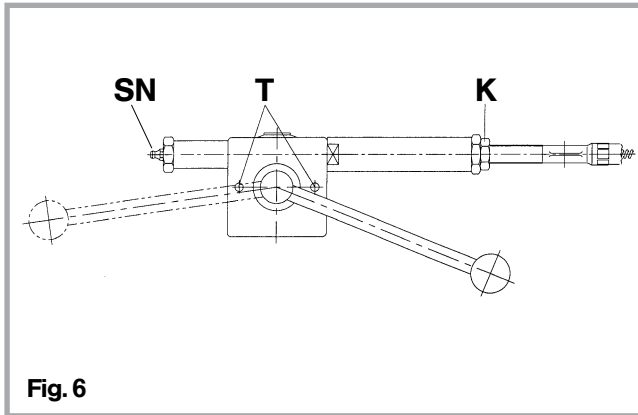

Fig. 6
- the fastening screw (T) should be bolted to the gearbox casing
- the lock nut is to be released (K)
Recommendation: Bowden cable should be at least half a year post-greased (SN, Fig. 6) and the clearance between (M) and (D) is to be checked (s. fig. 2/5)